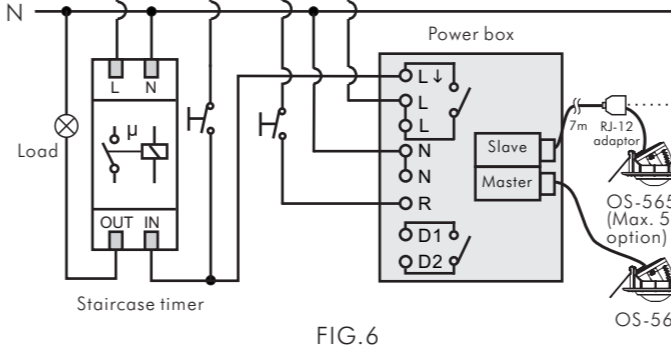

FIG.6
3.3.1.3 OS-565Pi controls staircase timer (See FIG.6).